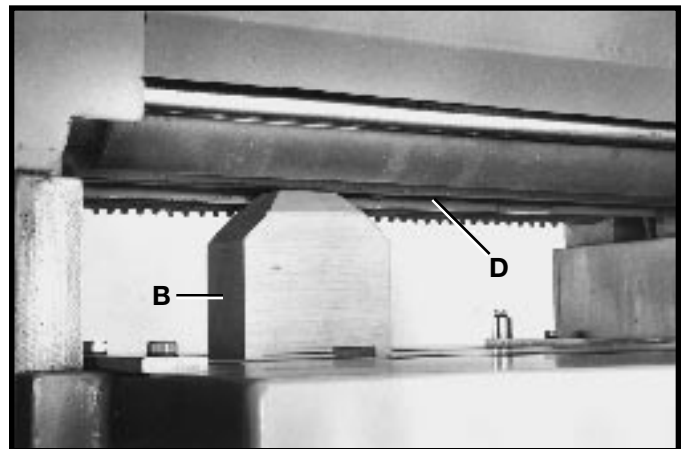
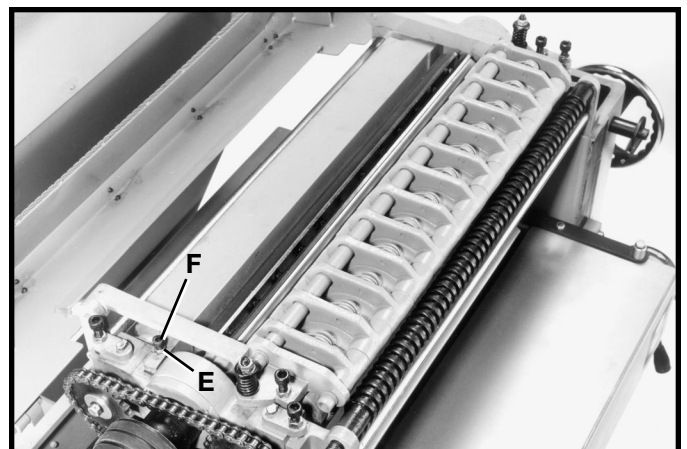

Fig. 41
Fig. 42
4. Move gage block (B) Fig. 41, under pressure bar (D) as shown. The bottom of pressure bar (D) Fig. 41, should just touch the top of gage block (B). Check the opposite end of the pressure bar in the same manner.
5. If an adjustment to the height of the pressure bar is necessary, loosen lock nut (E) Fig. 42, and turn adjustment screw (F) until the bottom of pressure bar (D) Fig. 41, just touches top of gage block (B). Repeat the adjustment at the other end of the pressure bar in the same manner.